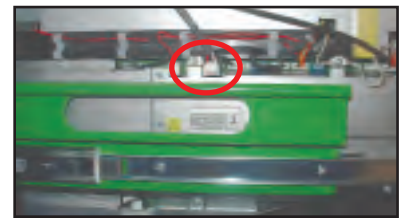

Figure 1
3. Disconnect all wiring leading to NMD unit, (see figures 1, 2) including power, data and ground cables. Make note of wire routing and connections and keep all cabling clear of dispenser and other moving parts during conversion.